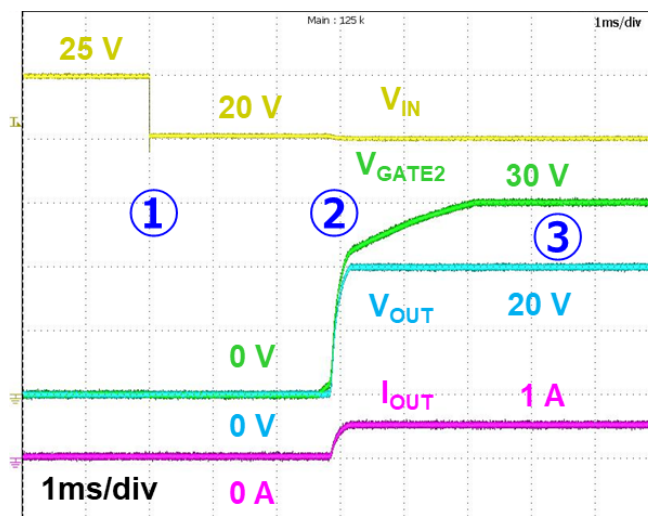

Fig 7.7 Over voltage lockout recovery operation (TCK421G, VGATE2)
Fig 7.7 is the recovery operation from the over voltage lockout. When  $V_{IN}$  falls  $V_{IN\_OVLO}$  and returns to the normal operating range (①),  $V_{GATE2}$  and  $V_{OUT}$  begin rising after a certain period (②), and the intermittent operation is performed so that  $V_{GS}$  keeps 10 V (③). In this series of recovery operations, the turn-on time from when  $V_{IN}$  returns to normal operating range until  $V_{GATE}$  increases is equivalent to  $t_{ON}$ .